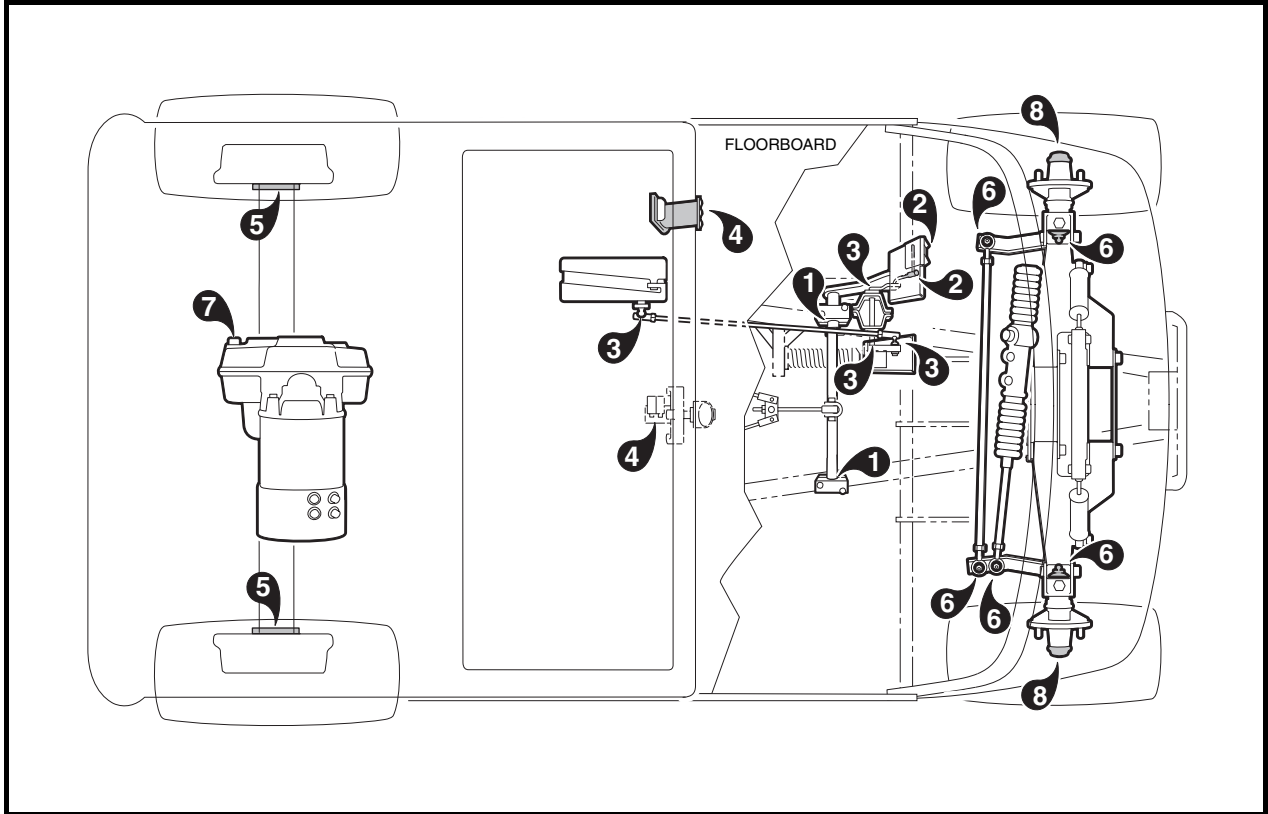
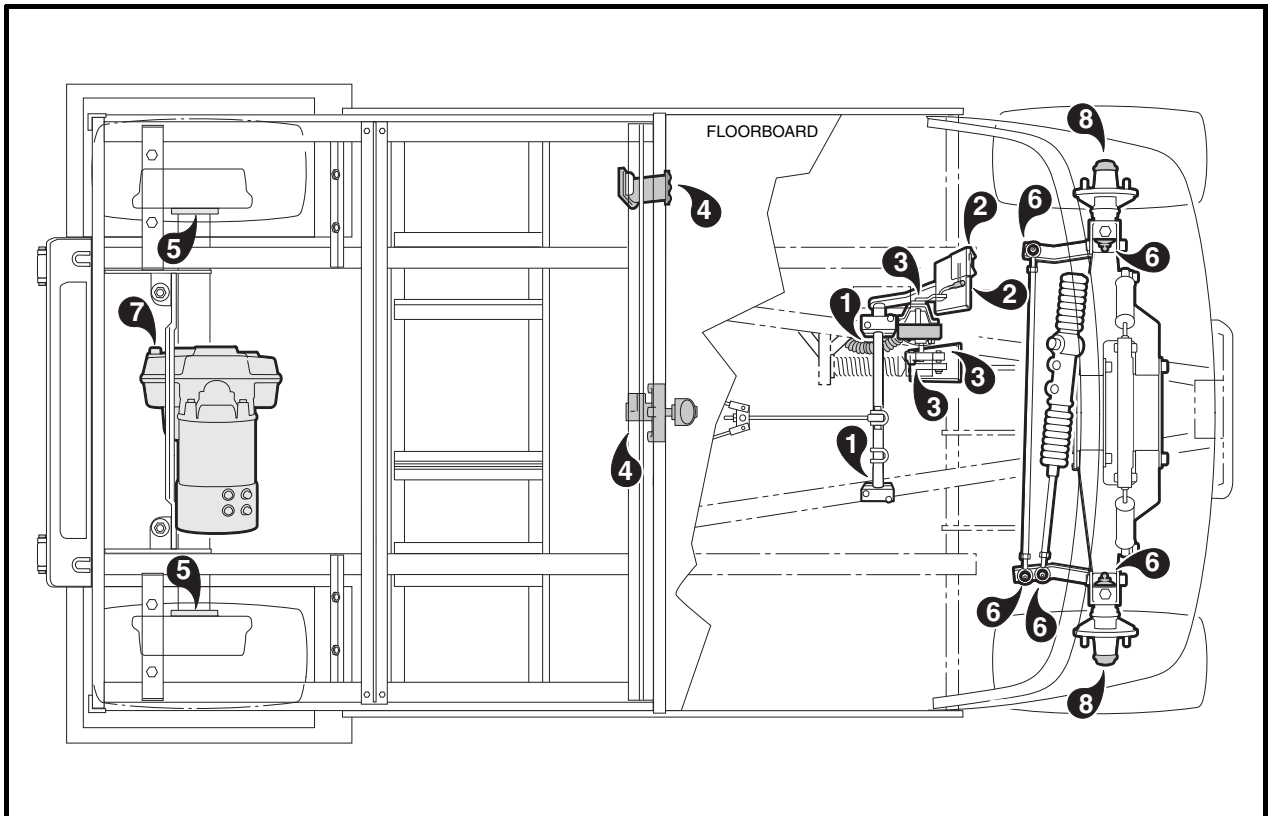

Figure 8 Tourall Electric Vehicle Lubrication Points
Figure 9 Resort Villager, Trans-Porter/Trans-Sender Electric Vehicle Lubrication Points
*See Figure 8, Page 21 for Tourall electric vehicle. See Figure 9, Page 21 for Trans-Porter, Trans-Sender, and Resort Villager electric vehicles.